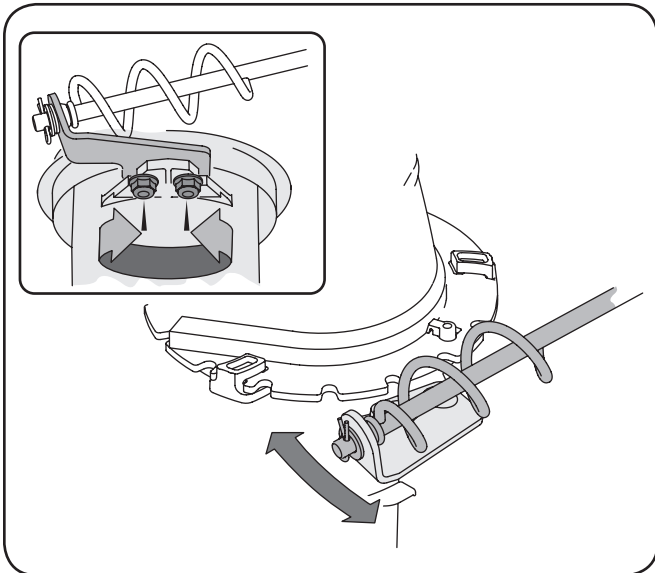

Figure 6-7
- Loosen the two nuts which secure the chute bracket and reposition it slightly. See Figure 6-7.